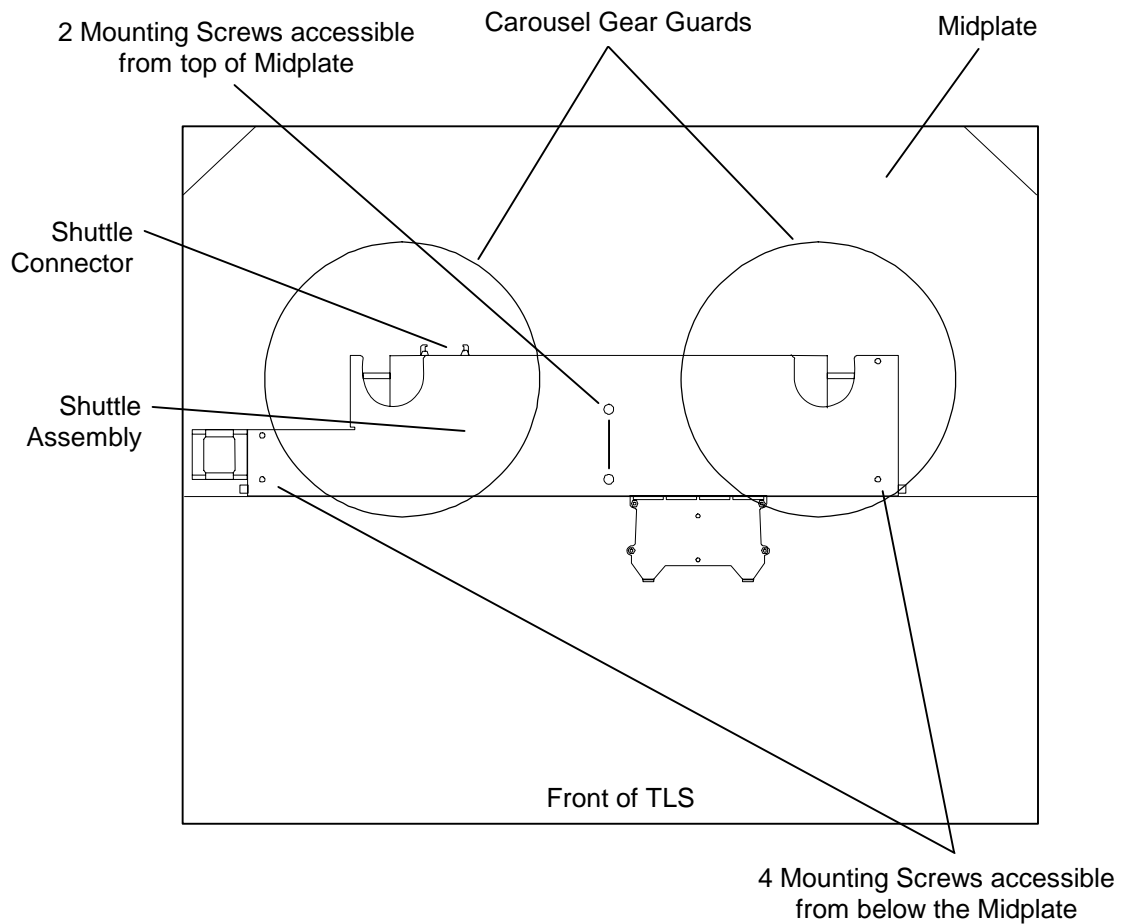

Figure 7-48 Top View of Shuttle Assembly
6. From the front of the TLS, use a number 2 Phillips screwdriver to remove the four Shuttle Assembly mounting screws, which are accessible underneath the Midplate (Figure 7-48).
7. While supporting the Shuttle Assembly with one hand, remove the remaining two mounting screws, which are accessible from the top of the Midplate (Figure 7-48).
2. Rotate the Shuttle Assembly downward to clear the support member while positioning it under the Midplate. Align the Shuttle Assembly with the mounting screw holes in the bottom of the Midplate (Figure 7-48).
3. While supporting the Shuttle Assembly with one hand, replace the two mounting screws, which are accessible from the top of the Midplate (Figure 7-48).
4. Replace the four remaining mounting screws, which are accessible from underneath the Midplate (Figure 7-48).
5. Reach into the through the right side Access Panel opening and reconnect the ribbon cable to SHUTTLE connector on the PCBA (Figure 7-48).